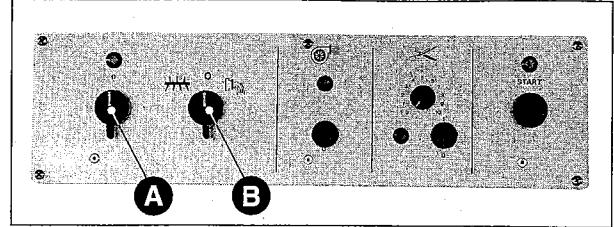

Fig. 32
Turn the general switch to position "1" (Fig. 32 A) and check the following:
- Make sure that the mixer is rotating counter-clockwise, facing the front of the machine, when the switch (Fig. 32 B) is placed on the "mix" position  , (the Archimedean screw also turns counter-clockwise). In the "0" position all of the machine's elements should be still; in the drawplate position  , the mixer turns clockwise, the Archimedean screw should turn the same way (check from the lid slits).
- Operation of the buttons and pilot lamps according to the signs given (Fig. 32).